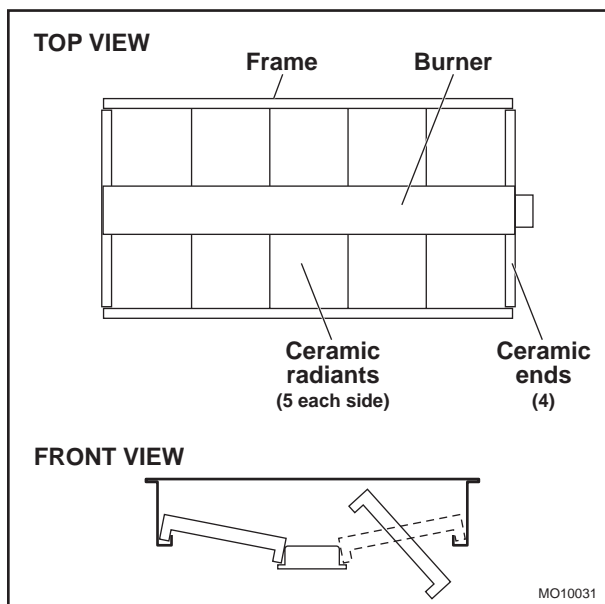
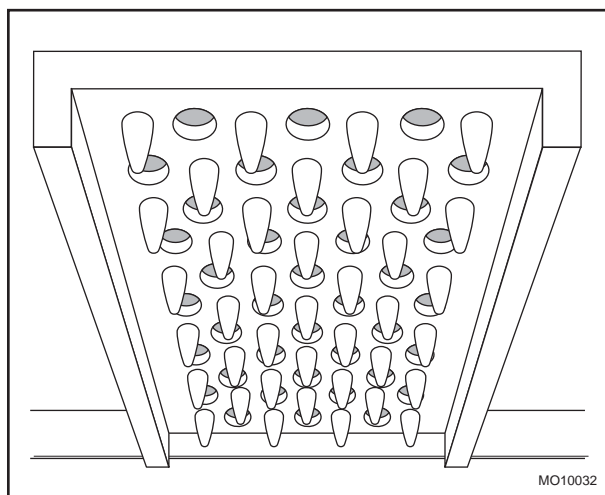

Figure 2. Ceramic Radiants Positioning
Figure 3. Ceramic Radiants
Ceramic radiants, Figure 2, are located on each side of the burners. Ceramic end pieces are installed at both ends of each burner assembly. Five (5) ceramic radiants are installed on each side of each burner with the pointed side facing down and the holes facing up, Figure 3